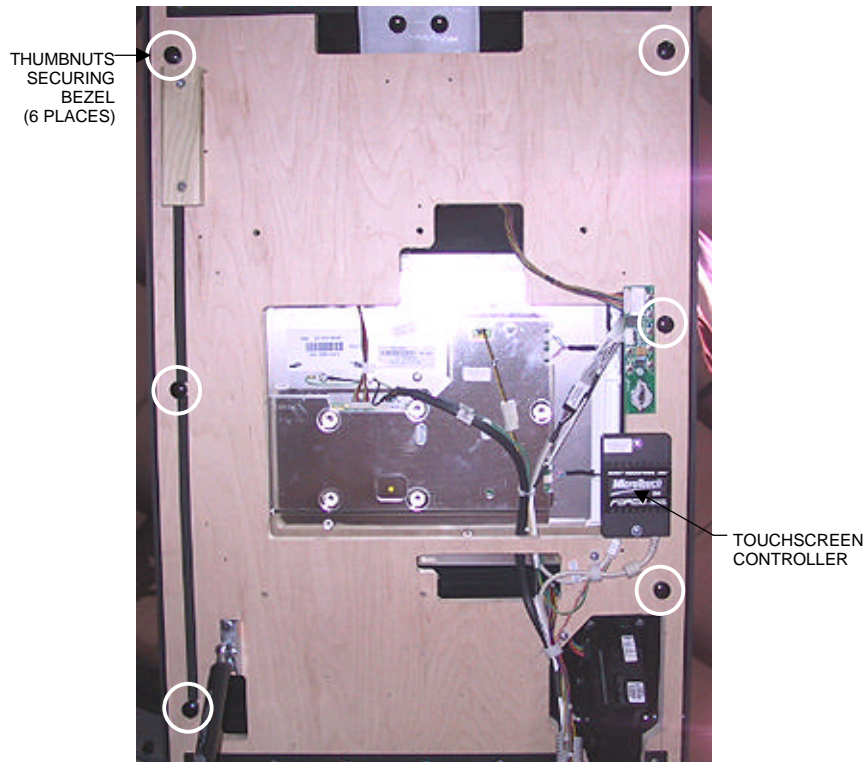

FIGURE 11 - UNDERSIDE OF BEZEL
3. Remove the 6 thumbnuts fastening the bezel to the game (see Figure 11) and remove the bezel.
controller (see Figure 11) to the game and disconnect the cable from the back of the controller. Locate and disconnect the Molex connector (orange and gray wires) running from the touchscreen controller cable to the main power harness, and also disconnect the ground screw.
back of the controller (see Figure 11) and secure the controller with the existing hardware. Also connect the Molex connector (orange and gray wires) to the main power harness (after routing the wires through the cable clamps) and attach the ground screw.